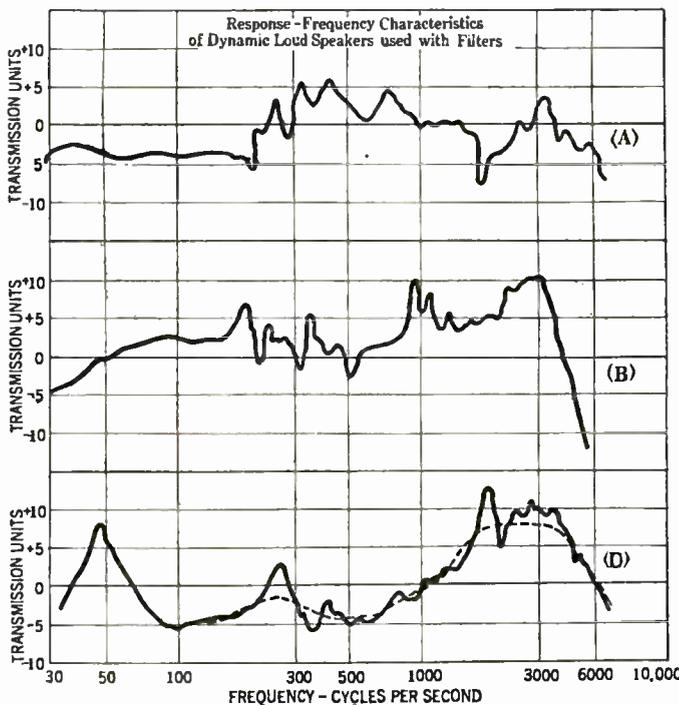
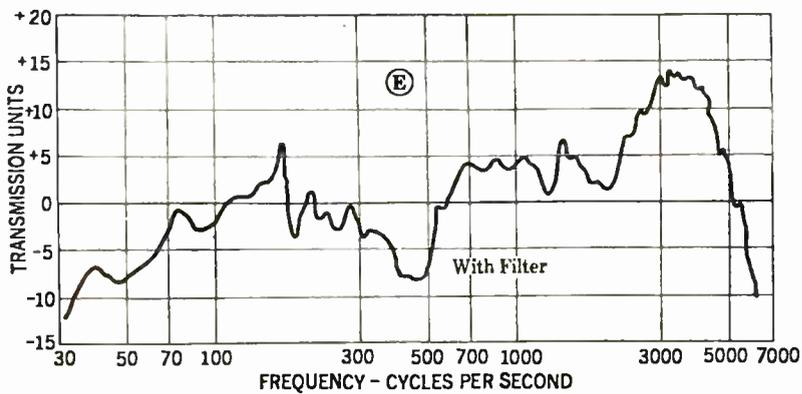

FIG. 2
FIG. 3
C. It will be noted that A and B have markedly increased response at the higher frequencies, while C has not. In Fig. 2 are shown these same loud speakers, A and B, when the filters are used. The response of a fourth loud speaker, D, is also given. The frequency-response characteristics of two other dynamic loud speakers are shown in Figs. 3 and 4.
[In analyzing these response curves the many small irregularities can be neglected, since, in general, they will not be audible to the ear. A good idea of what we might term the "average" response curve of the loud speaker can be obtained by drawing a smooth curve as we have indicated in dotted lines on curve D of Fig. 2. Note that the curves are plotted in  $\tau$ . With pure single-frequency tones the minimum change in response audible to the average ear is 2  $\tau$ , but